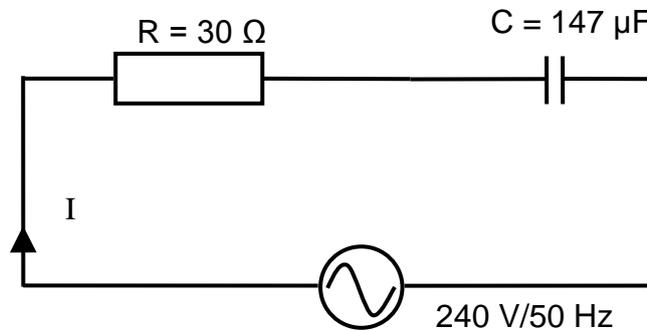

FIGURE 5.2: RC CIRCUIT
- 5.4 The RC circuit in FIGURE 5.2 consists of a 30 ohm resistor and a 147 microfarad capacitor connected across a 240 V/50 Hz supply.
- 5.5 With reference to FIGURE 5.2, describe what would happen to the voltage across the resistor if the capacitance of the capacitor was increased. (3)